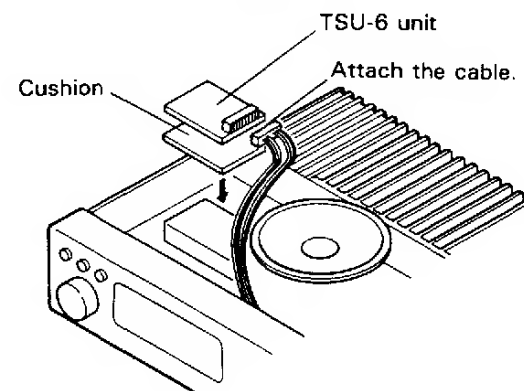

Fig. 2
3. Remove the backing from the small cushion provided with the TSU-6 and attach it to the back of the TSU-6 as shown in Fig. 2.
4. Attach the cable to the TSU-6 as shown in Fig. 2.
2. Attach the three cables from the DRU-1 as shown in Fig. 2.